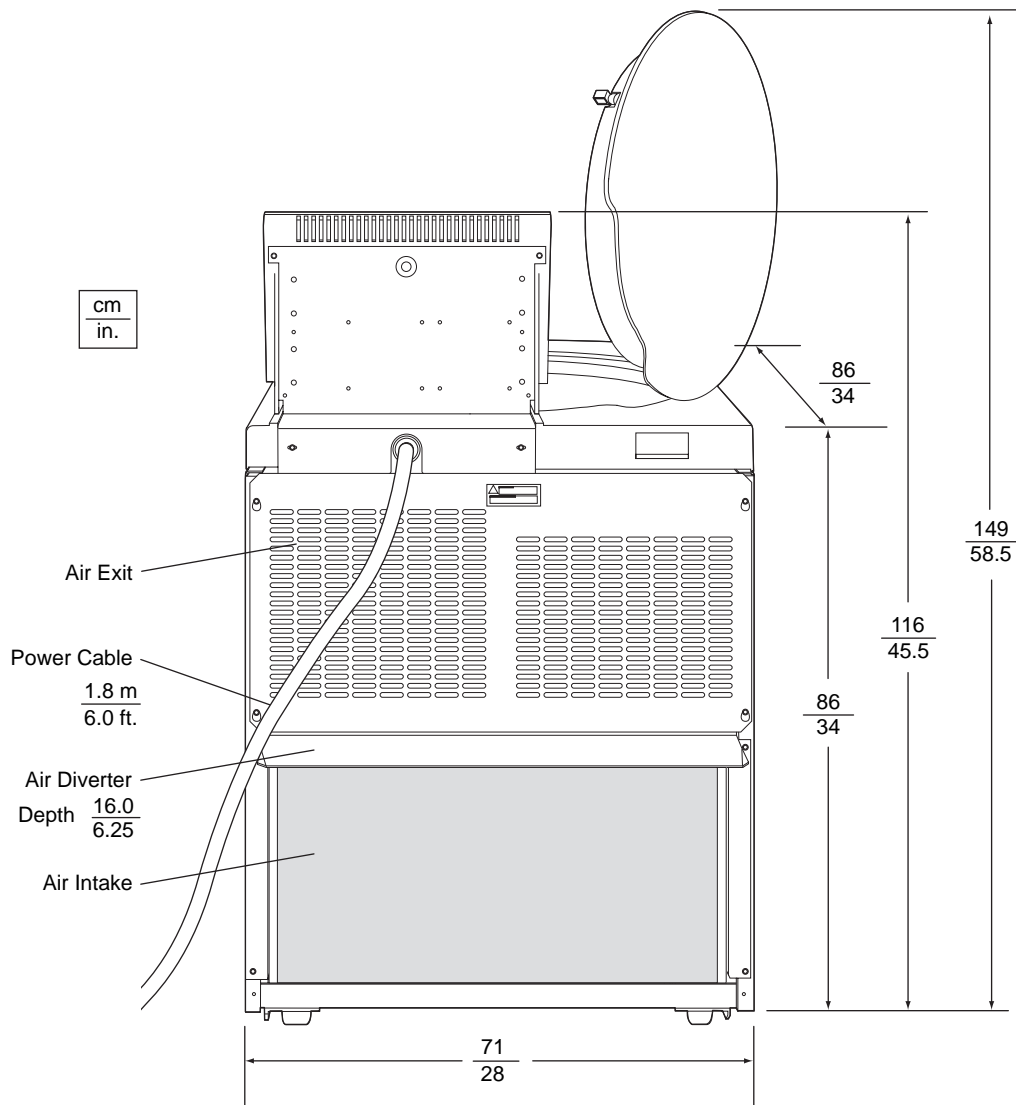

Figure 1-4. Rear View and Dimensions
- Position the centrifuge so that the air diverter, shown in Figure 1-4, touches the wall behind the centrifuge. Place the power cord to one side of the air diverter. To avoid damaging the power cord when installing or moving the centrifuge, be sure to move the cord out of the way before pushing the centrifuge against the wall.